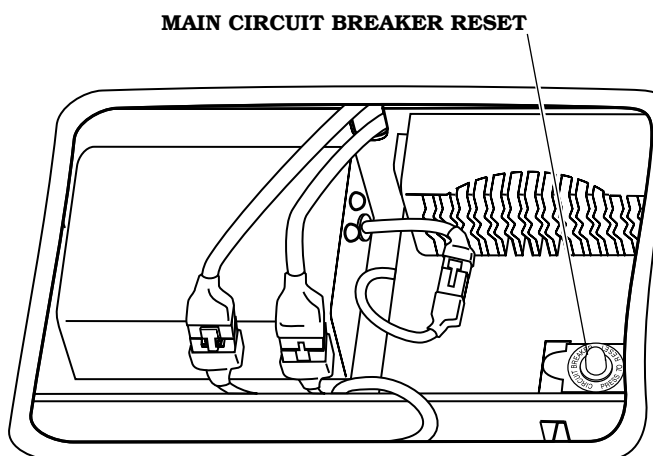

FIGURE 45. MAIN CIRCUIT BREAKER RESET
The 50-amp main circuit breaker reset button is located on the rear electrical enclosure. See figure 45.
3. Press in on the main circuit breaker reset button. See figure 45.